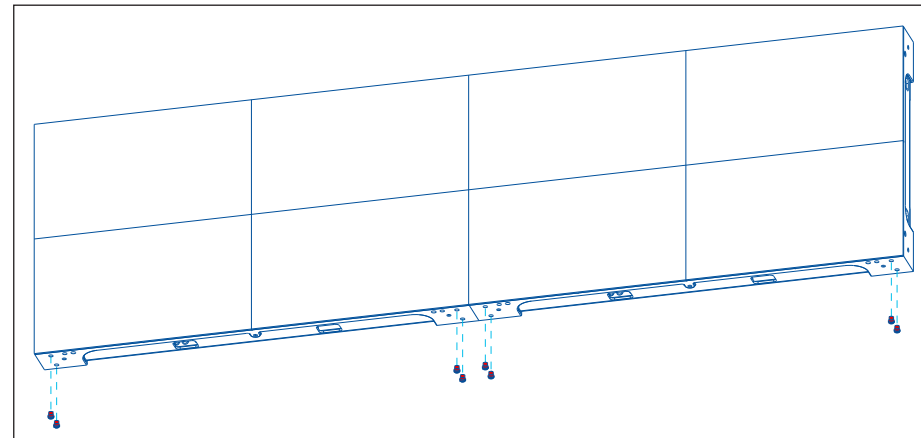

Figure 2: Prepare Bottom Row of Panels
1. Remove the bottom alignment pins from the bottom row of panels. Refer to **Figure 2**.